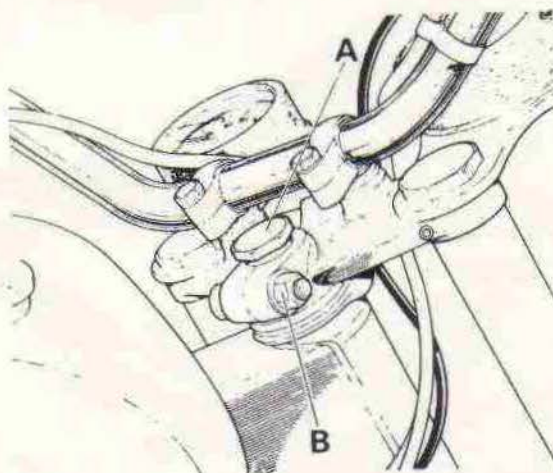

Fig. G1. Steering head adjustment
To adjust the steering head assembly, slacken the clamp nut B, Fig. G1 and the top yoke adjuster nut A then tighten down the adjuster nut until adjustment is correct. There should be no play evident
Slacken the top lug pinch bolt (A) fig. G1 and remove adjuster and middle nut (B). Loosen both the top lug stanchion pinch bolts with an allen key. Slide fork leg and stanchion from the lugs.
The steering head outer races have a very long serviceable life and should not need replacement for a very considerable mileage. If however their replacement is deemed necessary the races can be removed using a suitable drift from inside the head lug. Replacement of the new race is effected by using service tool 61-6121. Do not forget to refit the bearing abutment rings behind the outer races. Reassembly is the reverse of the above procedure. Grease the bearings prior to replacement, see Section A1 for correct grade. Note that head of both the top lug and stanchion must be flush leaving the head of the inner retaining plug standing proud. Care must be taken to ensure that the headlamp shrouds are located correctly in the prespective recesses in the top plug. Note that when refitting the plastic dust cover ensure that it sits square to allow the adjuster nut, fig. G1 (A) to locate on the bearing. Readjust the steering head bearing as in Section G1. Reassemble the hydraulic system as described in Section F6.